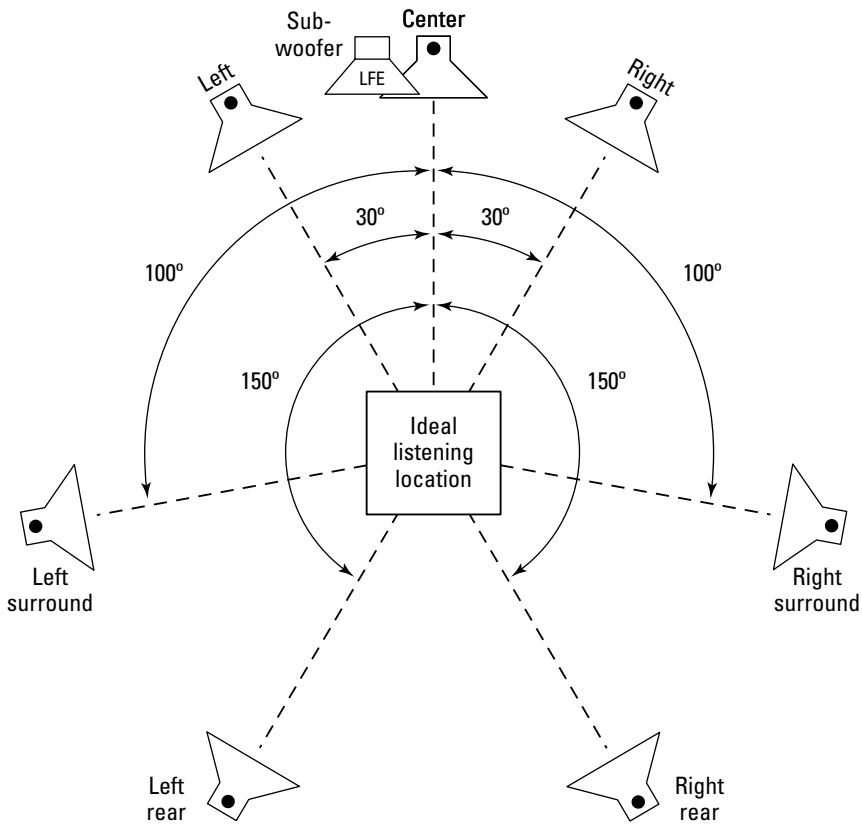

Figure 9-4:
- ✓ **7.1 channel:** This layout includes right front, left front, center, right surround, left surround, right rear, left rear, and subwoofer speakers. Figure 9-4 (later in this chapter) shows a 7.1 channel speaker arrangement. This is the ideal surround sound layout.
Figure 9-4 shows a 7.1 channel speaker layout. The front speakers are in the same position as in a 5.1 channel system, but the left and right speakers are 100 degrees from the center, instead of 110 degrees. It may be difficult to position the speakers at exactly 100 degrees, so try for somewhere between 90 and 110 degrees. 7.1 channel surround adds two rear speakers, which are placed 130–150 degrees from the center speaker.